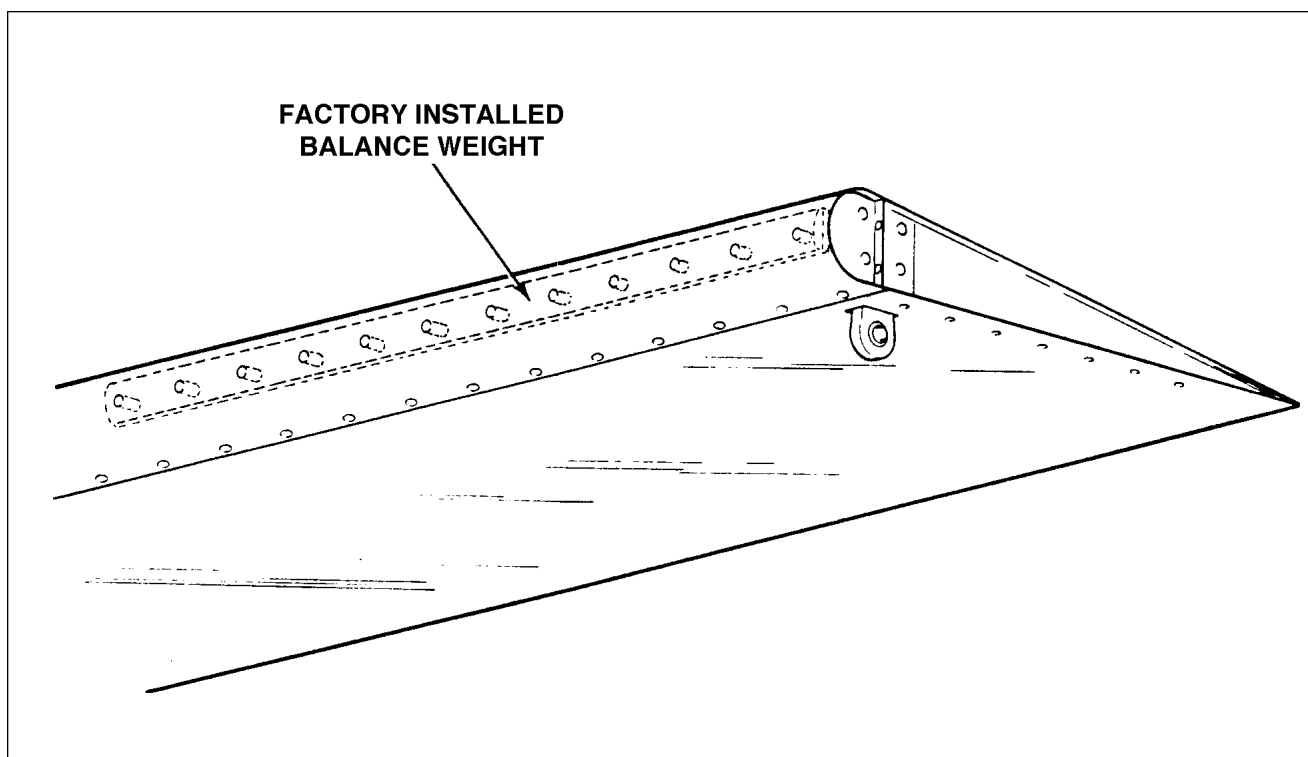

Figure 4-24. Factory Installed Aileron Balance Weight (1974 and 1975 Models Only)
- b. **Trailing Edge Heavy:** It will be necessary to determine the exact cause of the underbalance. If the aileron is too heavy because of paint build-up, it will be necessary to strip all paint from the aileron and repaint. If the aileron is too heavy resulting from repair to the skin or ribs, it will be necessary to replace all damaged parts and recheck the balance. There are ***no provisions*** for ***adding*** weight to the ***factory installed balance weight*** on 1974 and 1975 ailerons. (Refer to Figure 4-24.) Balance weights were not installed on 1976 and up models.